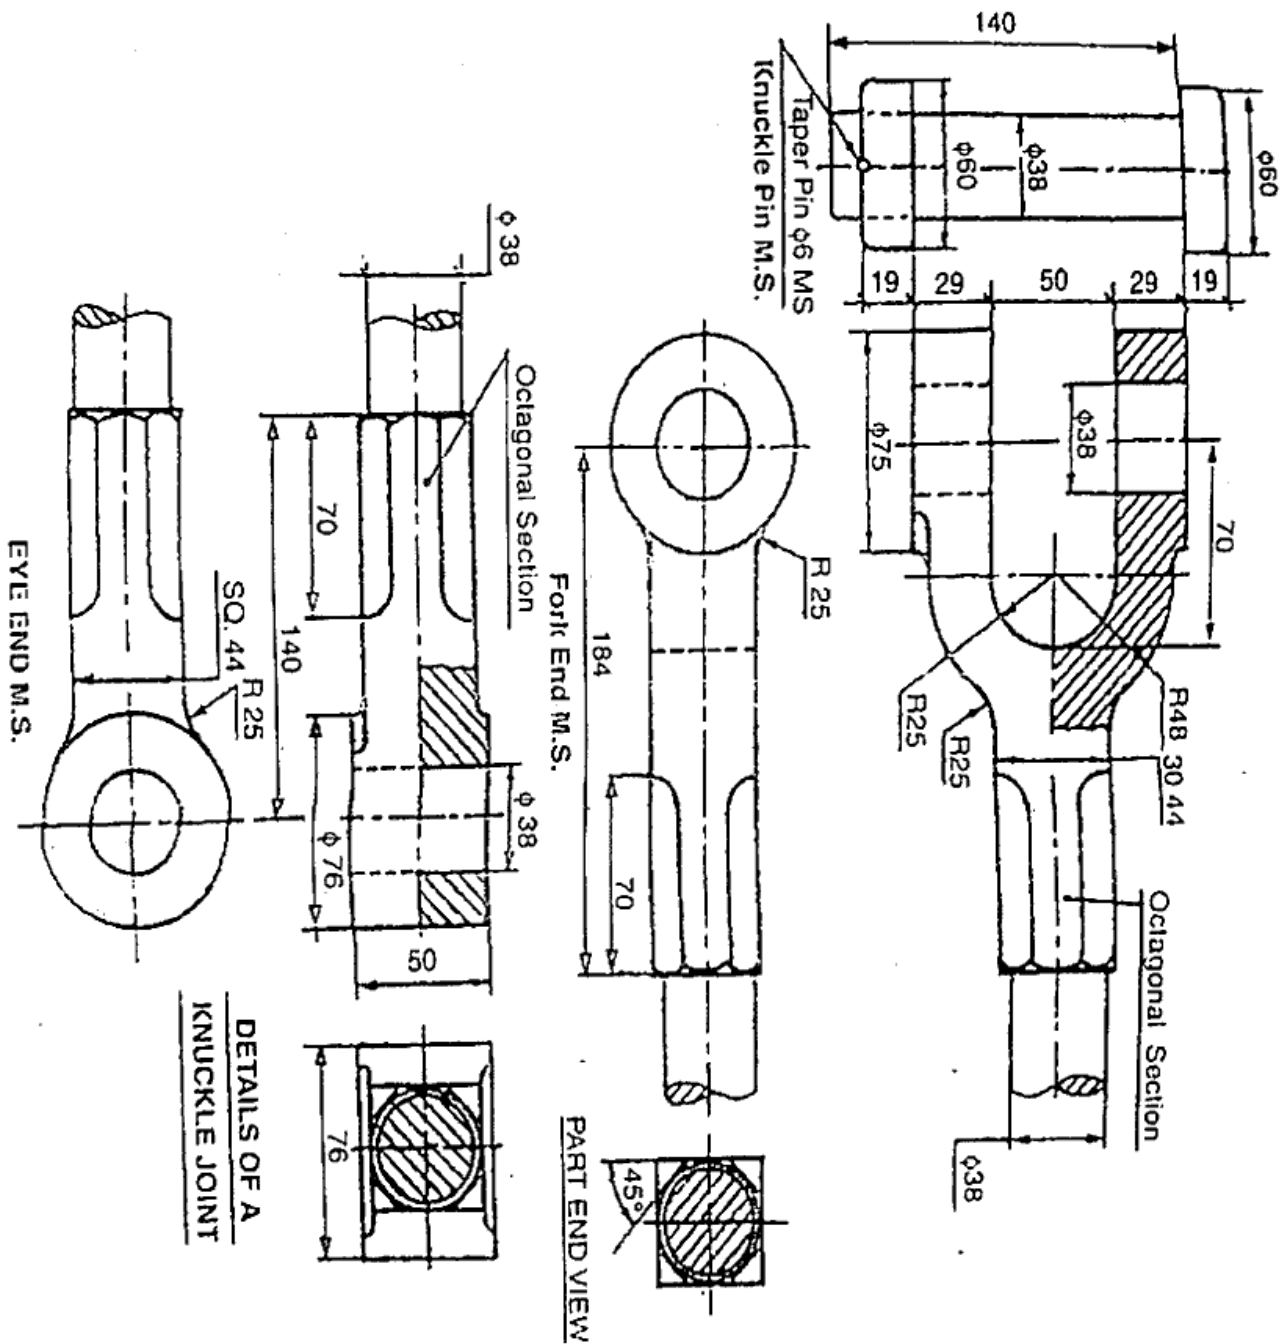

Fig. 3 Knuckle Joint (Details Drawings)
6. Fig. 3 shows the detail of knuckle joint. Assemble it and Draw